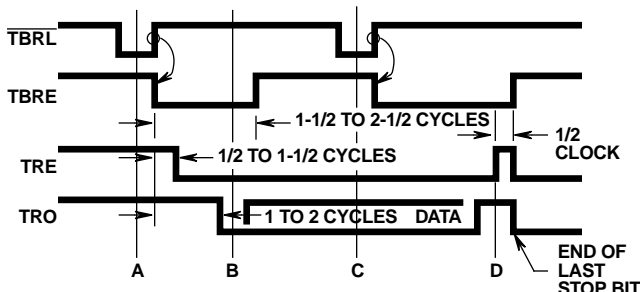

FIGURE 3. TRANSMITTER TIMING WAVEFORMS
Transmitter timing is shown in Figure 3. (A) Data is loaded into the transmitter buffer register from the inputs TBR1 through TBR8 by a logic low on the  $\overline{\text{TBRL}}$  input. Valid data must be present at least  $t_{DT}$  prior to, and  $t_{TD}$  following, the rising edge of  $\overline{\text{TBRL}}$ . If words less than 8-bits are used, only the least significant bits are used. The character is right justified into the least significant bit, TBR1. (B) The rising edge of  $\overline{\text{TBRL}}$  clears TBRE. 1/2 to 11/2 cycles later, depending on when the  $\overline{\text{TBRL}}$  pulse occurs with respect to TRC, data is transferred to the transmitter register and TRE is cleared. TBRE is set to a logic High one cycle after that.